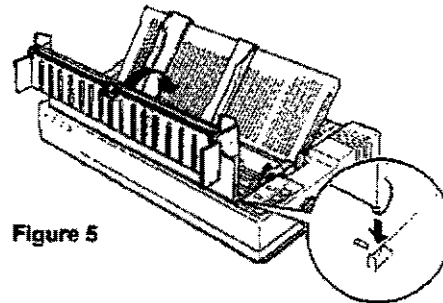

Figure 5
8. Reattach the printer cover by fitting the legs of the cover into the notches at the front of the printer (Figure 5). Turn the printer back on.